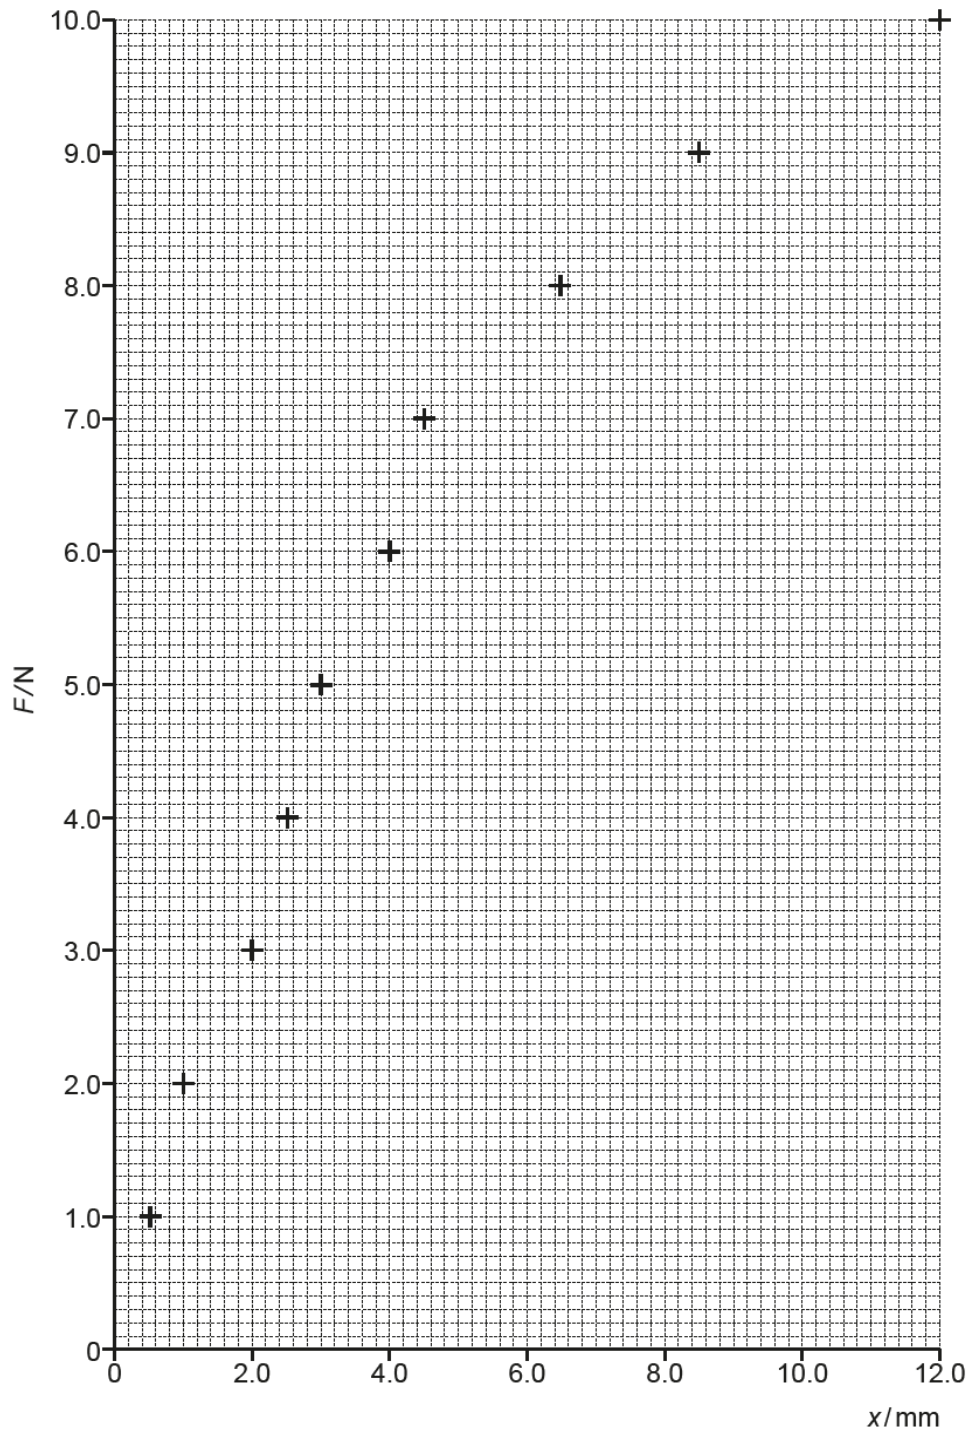

Fig. 4.2
- (b) A marker is placed to give an original length of the wire as  $4.00 \pm 0.02$  m. Fig. 4.2 shows the extension  $x$  of a metal wire at different applied loads  $F$ .  $x$  is measured to  $\pm 0.5$  mm and  $F$  is measured to  $\pm 0.2$  N. Fig. 4.2 shows the force-extension graph for the wire.
- (i) On Fig. 4.2